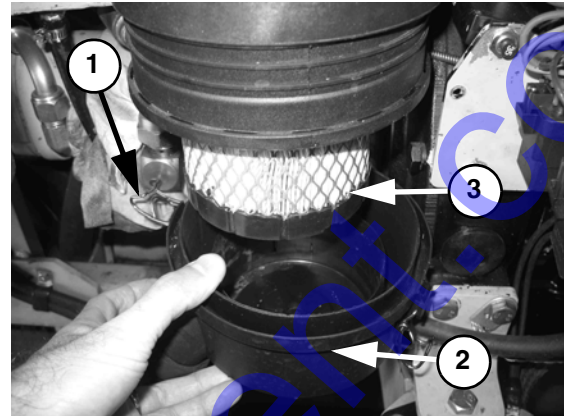

Fig. 39 - Air Cleaner
1. Open the latches (1, Fig. 39) securing the air cleaner cover (2).
2. Remove the cover and the air cleaner element (3).
4. Clean the inside of the air cleaner cover (2).
5. Re-install the air cleaner element (3) into the air cleaner housing.
6. Re-install the air cleaner cover (2) on the housing and secure with latches (1).